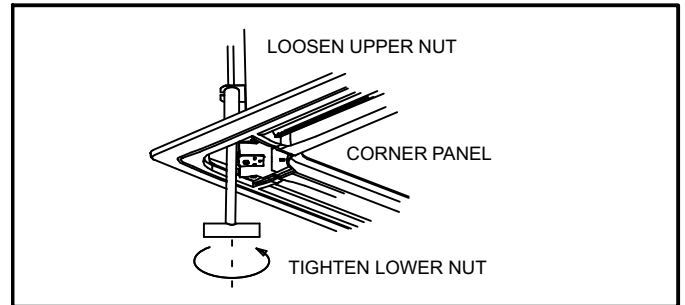

Figure 18. Adjust Unit Height Through Corner Panel
- 11 - If it is necessary to adjust the cassette height after the cover panel has been installed, access the leveling nut through the removable access cover on each corner. See figure 18.